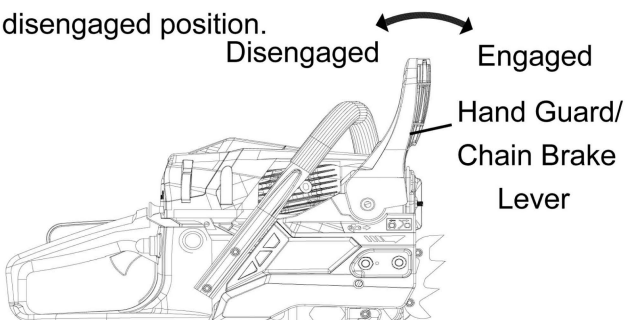

Figure 16: Hand Guard/Chain Brake Lever
3. Place the Hand Guard / Chain Brake Lever in normal operating (disengaged) position by pulling the Hand Guard back toward the Handle. Refer to Figure 16. **Note:** The Chainsaw will not operate unless the Hand Guard / Chain Brake Lever is in the disengaged position.